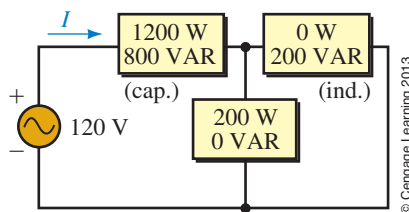

FIGURE 17-46
20. For the circuit of Figure 17-46, what is the source current?